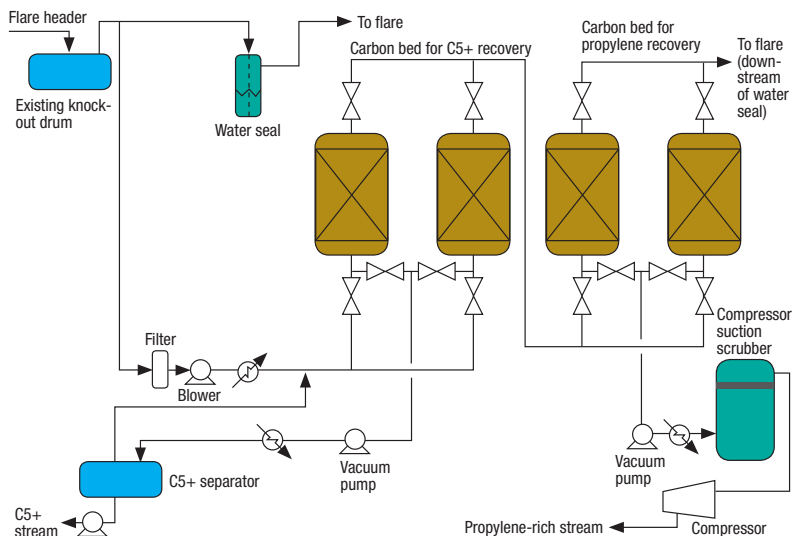

FIGURE 2. This flare-gas recovery system is based on beds of activated carbon [8]
Figure 2 shows an example of an adsorbent system based on activated carbon (AC) for flare-gas recovery. There, one can see that a stream from the main header from the knockout (KO) drum is directed to the FGRU. This stream is directed to a blower and sent to the absorber system. (The blower prevents any problems that might occur in the flare-gas header).